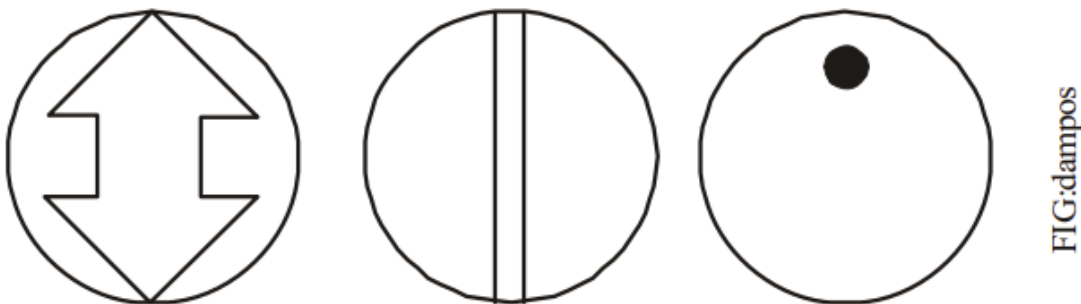

Figure 7: Damper Position
1. Check that the damper blade is visible or its position is permanently marked on the end of the damper shaft, as illustrated in **Figure 7**.